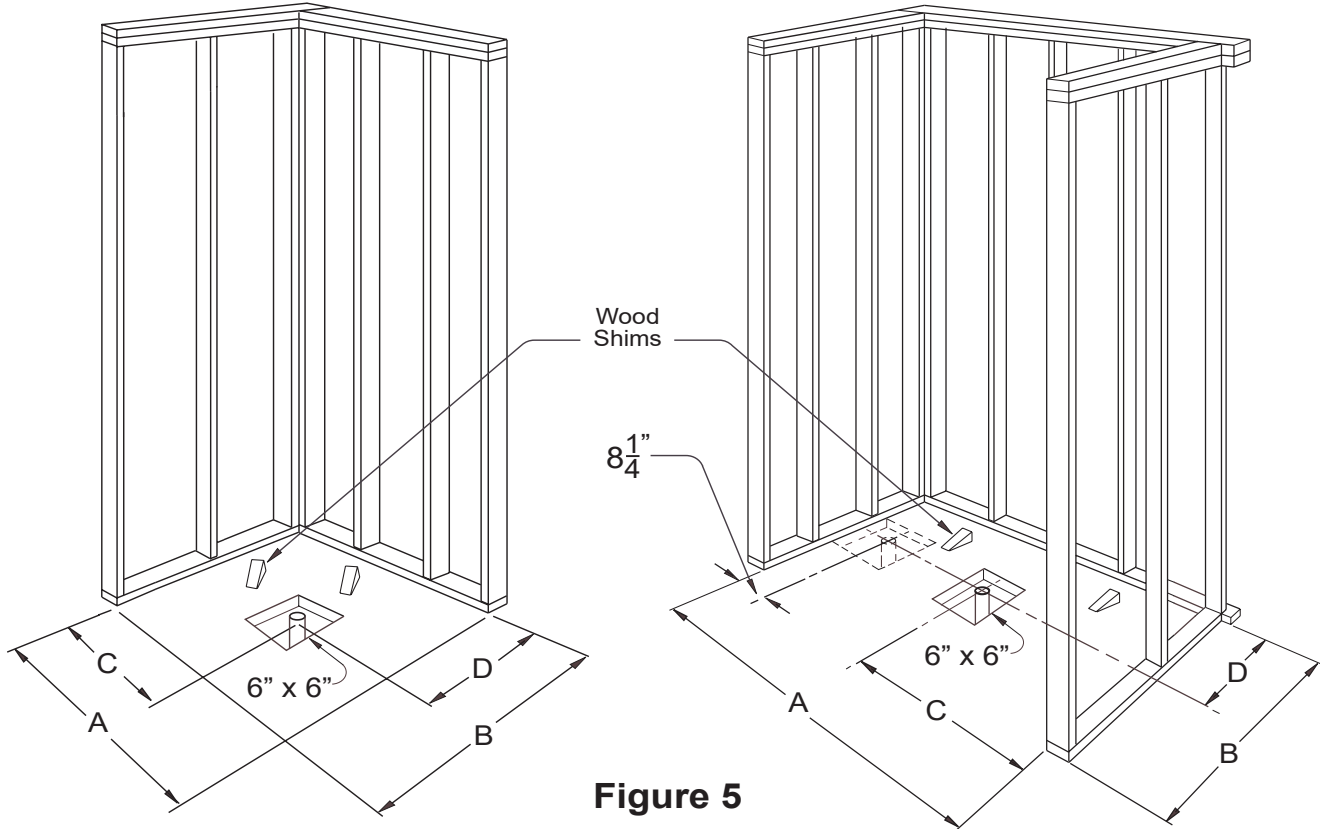

Figure 5
1. Review Figures 5 and 6. Make sure alcove is of proper size. Framing alcove must reflect interior dimensions on diagram to permit installation of unit. Note in diagram the required opening in the floor to provide clearance for the drain trap and fitting connection.